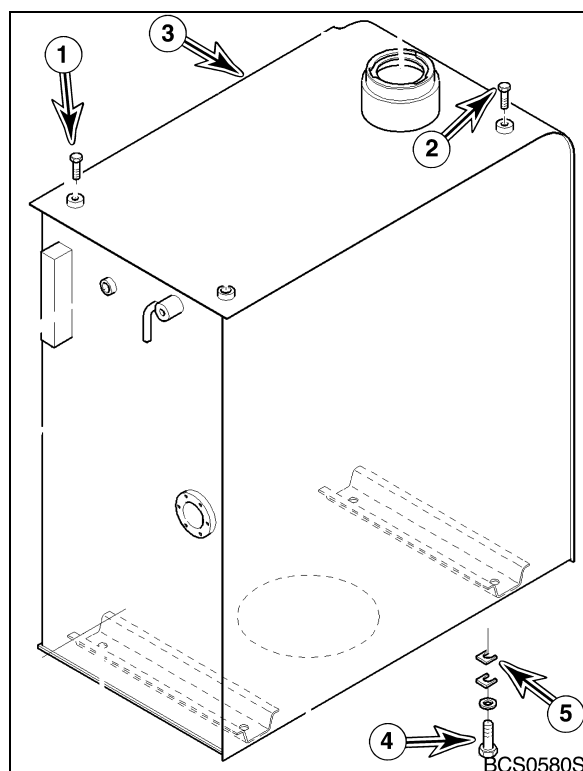

Figure 12
1. Install two 12 mm eye bolts in threaded holes at top surface of tank (1 and 2, Figure 12). Using a suitable lifting device, sling eye bolts.
2. Set fuel tank (3, Figure 12) into position. Install four bolts and washers (4) finger tight, to secure tank (3) to frame.
3. Install shims (5, Figure 12) as needed to prevent tank (3) from rocking or stress from mounting bolts (4).
4. Tighten mounting bolts (4, Figure 12) after shims are installed.